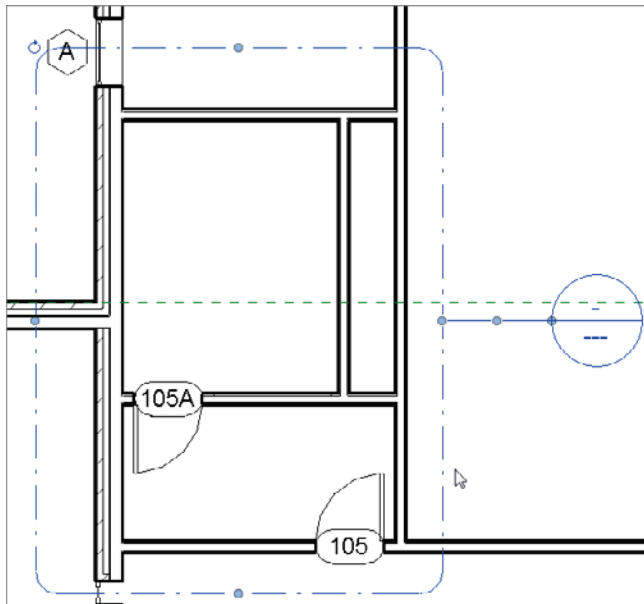

FIGURE 3.67 Creating a plan callout
2. Zoom in on the area shown in Figure 3.67.
4. Pick a window around the lavatory, as shown in Figure 3.67.